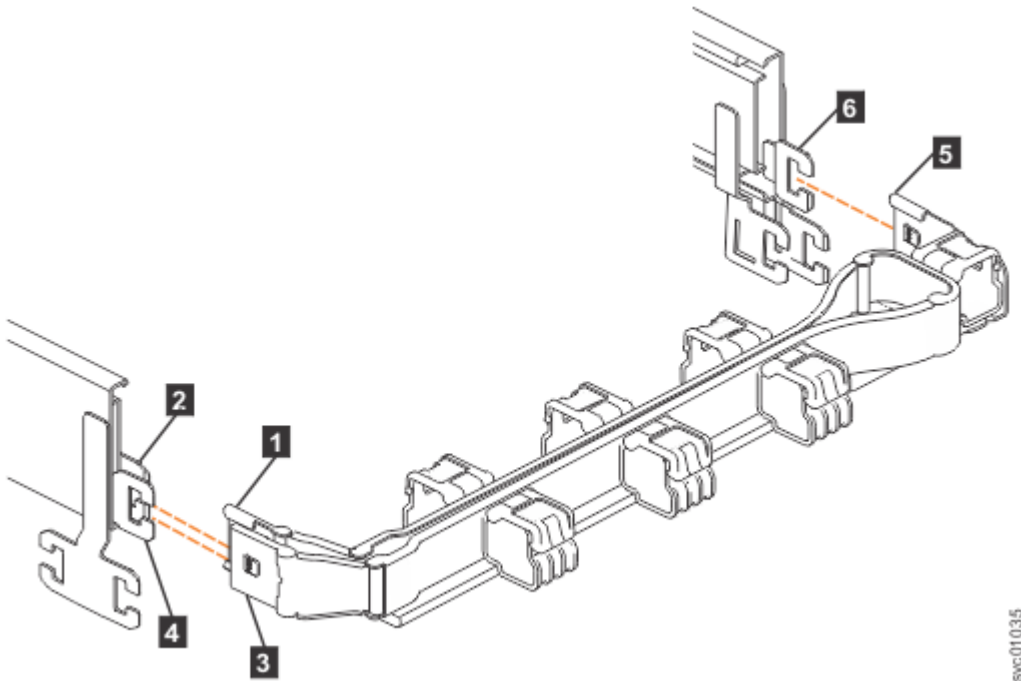
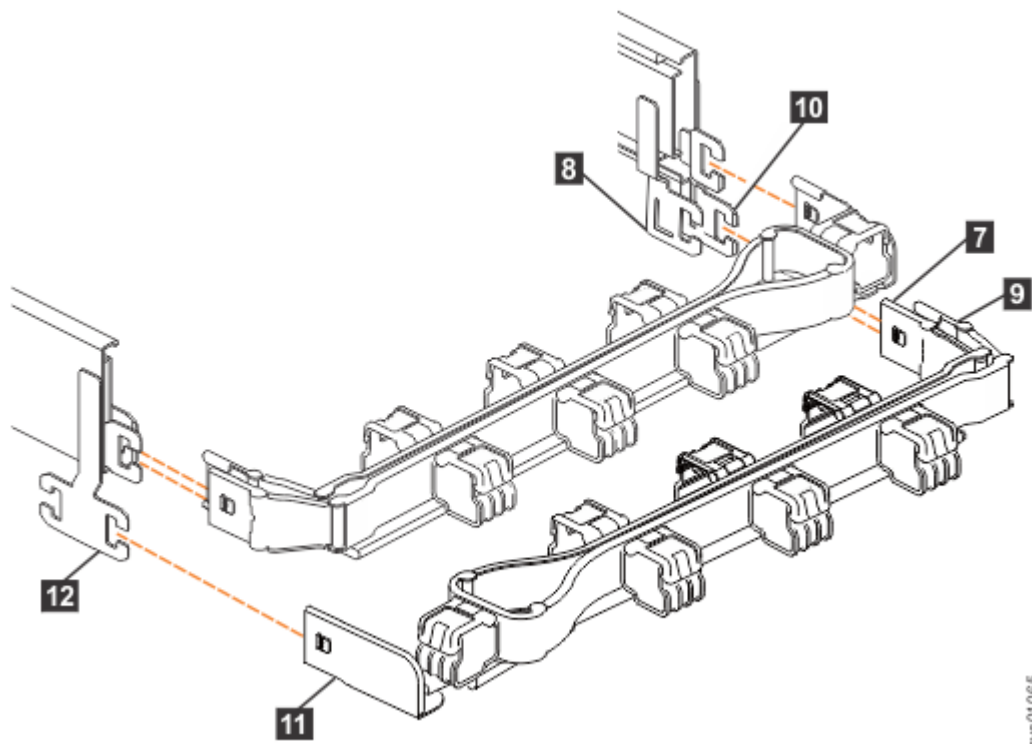

Figure 116. Connectors for the upper cable management arm
Figure 117. Components of the lower CMA assembly
The connectors of the CMA are installed on the rail hooks at the end of the support rails. Figure 116 on page 173 shows the connectors on the upper CMA assembly.
1. Press the latch on the connector base on the upper CMA assembly (**5** in Figure 116 on page 173).
2. Pull the connector to remove it from the connector base on the right support rail (**6** in Figure 116 on page 173).
3. Press the latch on the outer connector of the upper CMA assembly (**3** in Figure 116 on page 173).
4. Remove the outer connector from the inner member of the left support rail (**4** in Figure 116 on page 173).
5. Remove the inner connector of the upper CMA assembly (**1**) from the inner member of the left support rail (**2**), as shown in Figure 116 on page 173.
Note: The procedure for removing the lower CMA assembly is the same as the procedure to remove the upper CMA assembly. However, the connector locations are reversed. For example, the connector base of the upper CMA (**5** in Figure 116 on page 173) connects to the right rail. The connector base of the lower CMA (**11** in Figure 117 on page 174) attaches to the left rail.
6. Remove the connector base on the lower CMA assembly (**11**) from the connector on the left support rail (**12**), as Figure 117 on page 174.
7. Remove the inner connector of the lower CMA assembly (**9**) from the outer member of the right support rail (**10**), as shown in Figure 117 on page 174.
8. Remove the outer connector of the lower CMA assembly (**7**) from the inner member of the right support rail (**8**), as shown in Figure 117 on page 174.